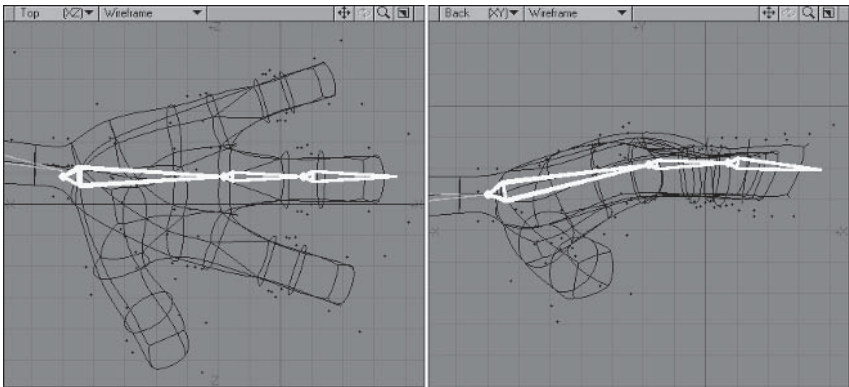

Figure 4.1-8. Creating the hand base.
- 2. Move the skelegons into position from the Top and Back views, making the first the hand, then the next two the middle finger (see Figure 4.1-8).